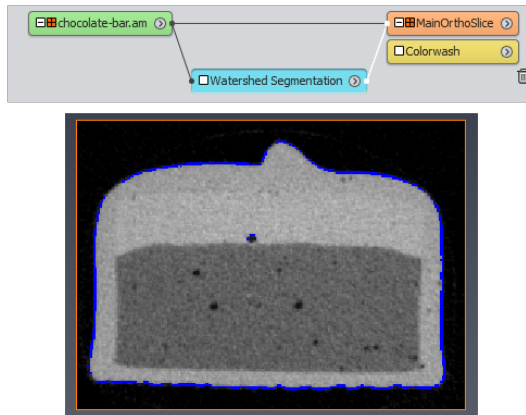

Figure 4.76: The *Watershed Segmentation* wizard at step 3.
- Then select again the *Watershed Segmentation* module (see Figure 4.76).